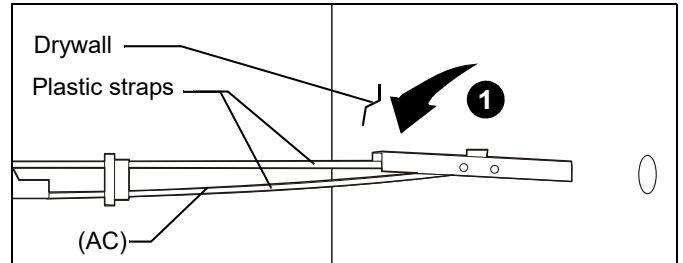

**Figure 19**
1. Install one UX10x60R anchor (AF) into each pilot hole using a hammer, making sure that the anchor is flush with the wall. (See Figure 19)
2. Use one 5/16" x 2-1/2" hex flange head lag bolt (AA) and one 5/16" washer (AB) through product into each anchor in wall. (See Figure 19)